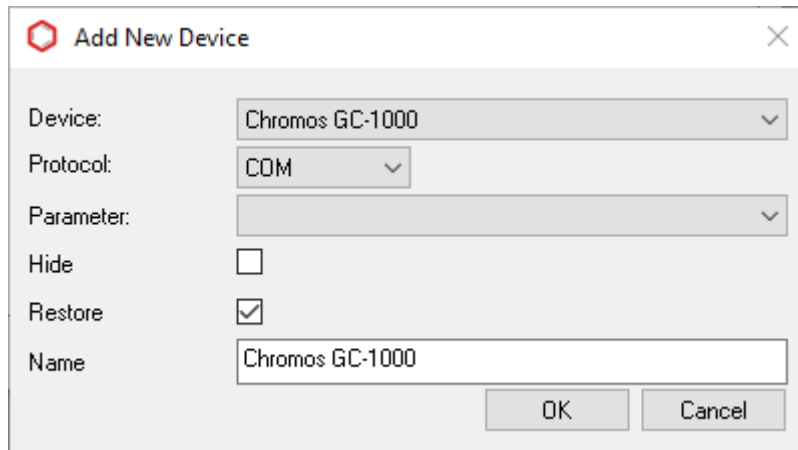

Fig. 19: Add New Device
1. To add a device, click  **Add**. The *Add New Device* window opens (Fig. 19):